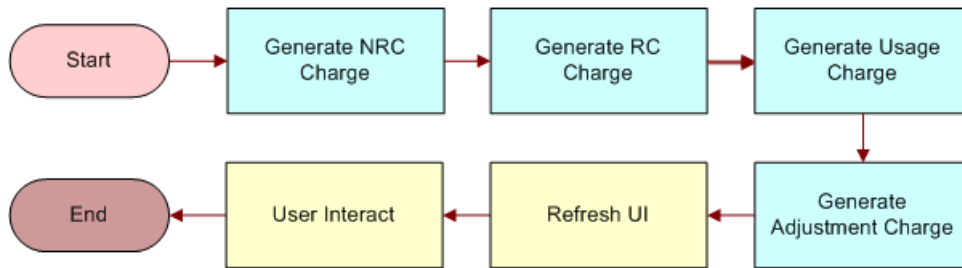

Figure 13. FS - Generate Agreement Charge
This workflow automates the process of creating agreement charges. The workflow is called FS - Generate Agreement Charge. Figure 13 illustrates this workflow.
**NOTE:** The user interface steps shown in Figure 13 simply redirect the user to the Agreements screen > List > Line Items > Charges view. See “Workflow to Generate All Agreement Charges” on page 271 for more information on running the workflow as a batch process, without these steps.